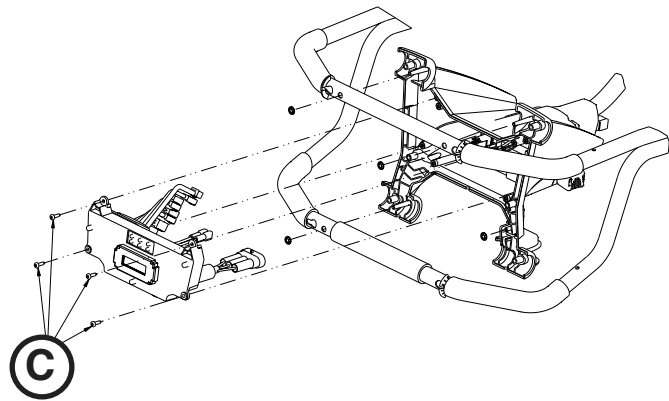

Figure 102
5. Using a T20 Torx driver, remove the four delta screws (C) that secure the electronics assembly to the foot end enclosure and pull the electronics assembly out (Figure 102). Save all parts for reinstallation.